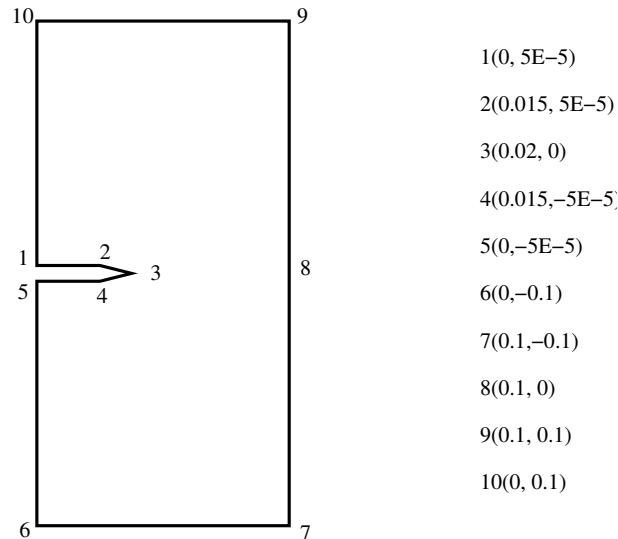

Figure 2: The right-half model: keypoints and their coordinates
- Due to symmetry of the problem, a quarter model can be used as in the first fracture tutorial. However, to illustrate a way to model both upper and lower faces of a crack, the right-half model shown in Fig. 2 is considered in this tutorial.
- We are going to create the following 10 line segments that define the boundary of the right-half model (see Fig. 2):